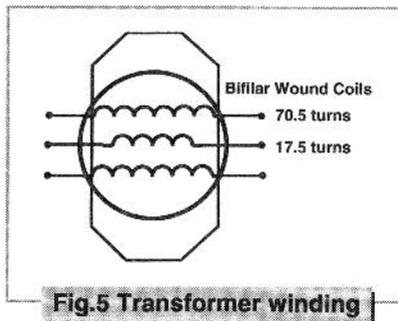

Fig. 5 Transformer winding
17.5 turns on the primary, and 70.5 turns on each secondary. The relative phase of the primary and secondaries must be preserved, so choose a direction to wind (either way) and wind all windings the same way, starting from the same end. The primary connects to the middle pins at each end of the former and the secondaries to the outer pins, as shown in Figure 5.